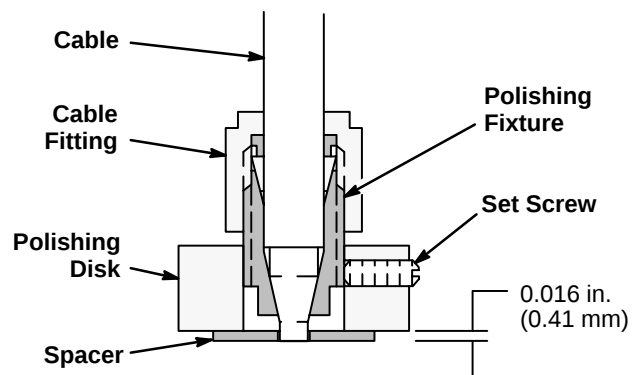

Fig 4 01016
6. Thread the polishing disk onto the polishing fixture. Position the polishing disc so that the cable end is flush with the spacer as shown in Fig 4. Tighten the set screw to secure the polishing disc in this position.